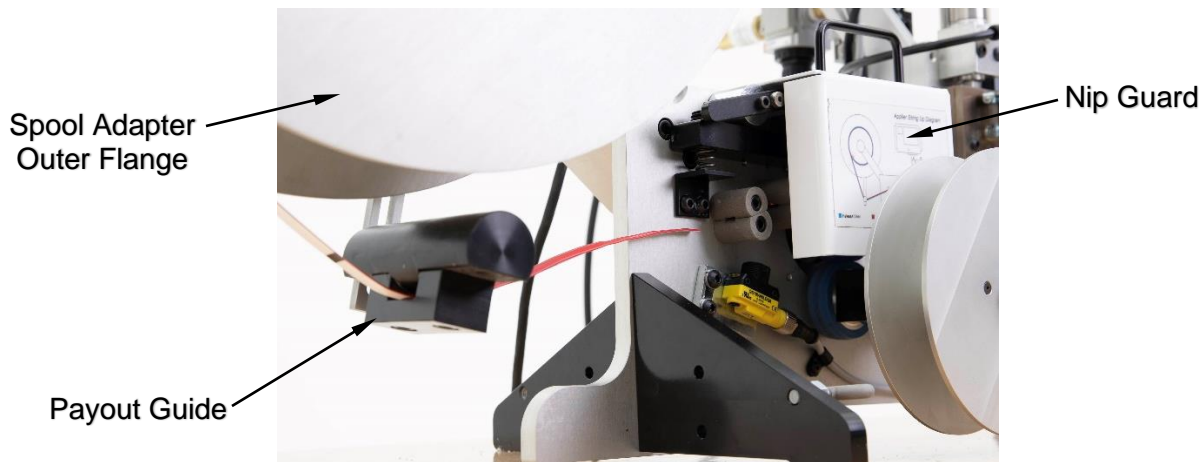

Figure 3.2
2. Place the spool on the Spool Adapter so the tie material pulls off the left side (Figure 3.2)